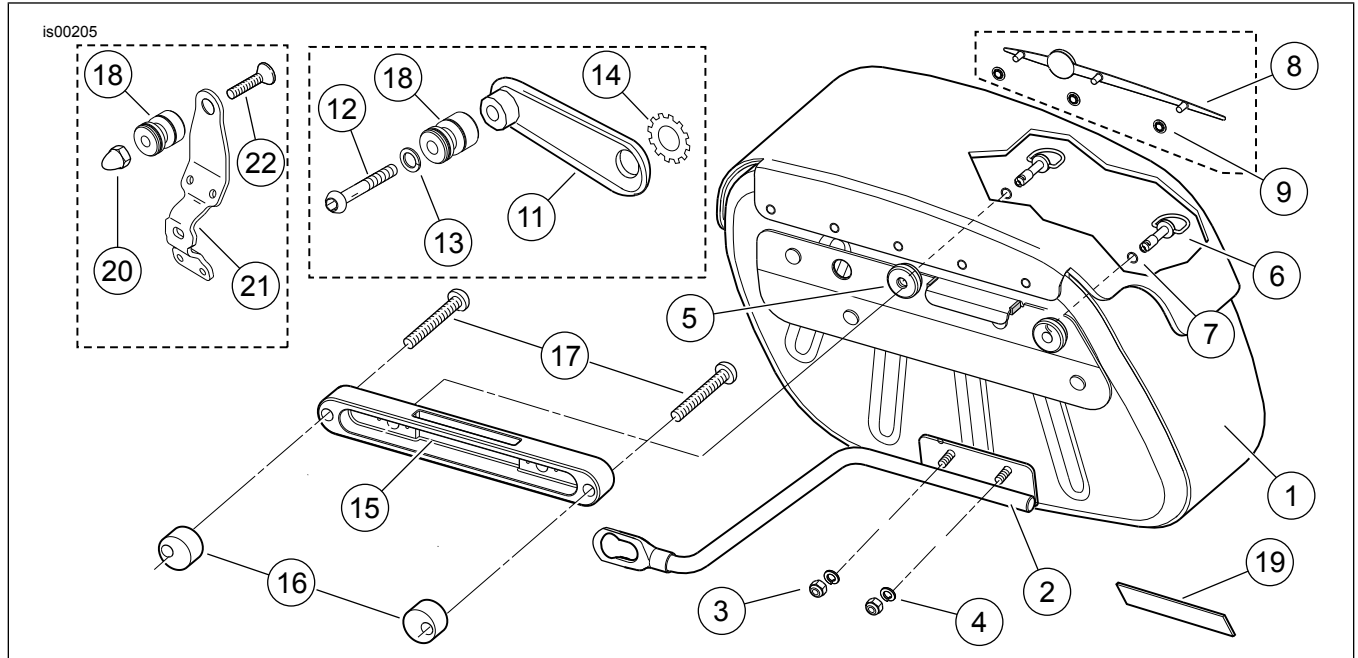

Figure 6. Service Parts: Softail Detachable Saddlebag Kits
- See Figure 6. Obtain the following items from the kit:
- a saddlebag mounting bar (15),
- two screws (17),
- AND** two spacers (16) (models not using docking points).
9. See Figure 6. Install the reflectors from the kit on the outboard side of the saddlebag lid, centered between the strap rivets. The reflectors are side-specific. Obtain the correct reflector from the kit. Remove the adhesive backing and press the reflector firmly into place on each saddlebag to activate the adhesive.